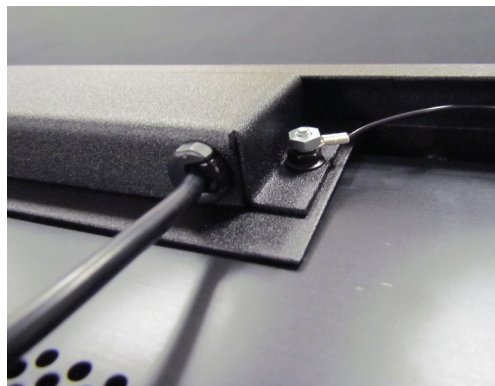

Figure 8b
- 7.2.2 Secure the grounding wire using the provided #6-32 silver hex nut, as shown in figure 8b.